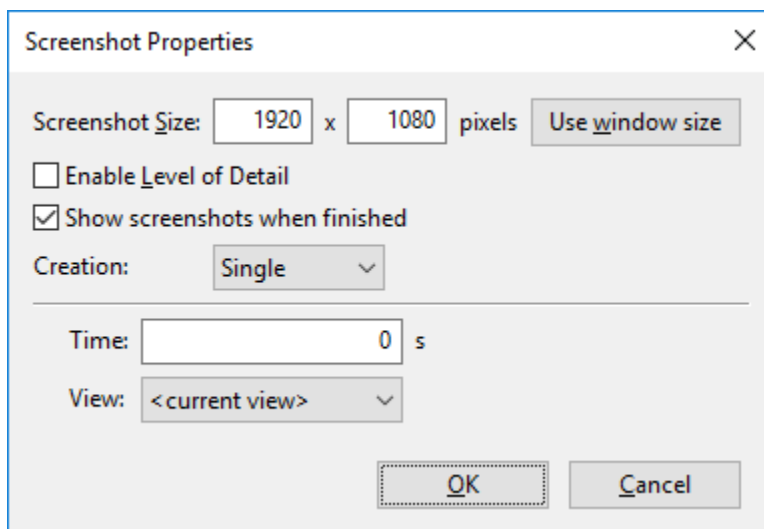

Figure 34. Screenshot dialog
5. The **Screenshot** dialog will appear as shown in Figure 34.